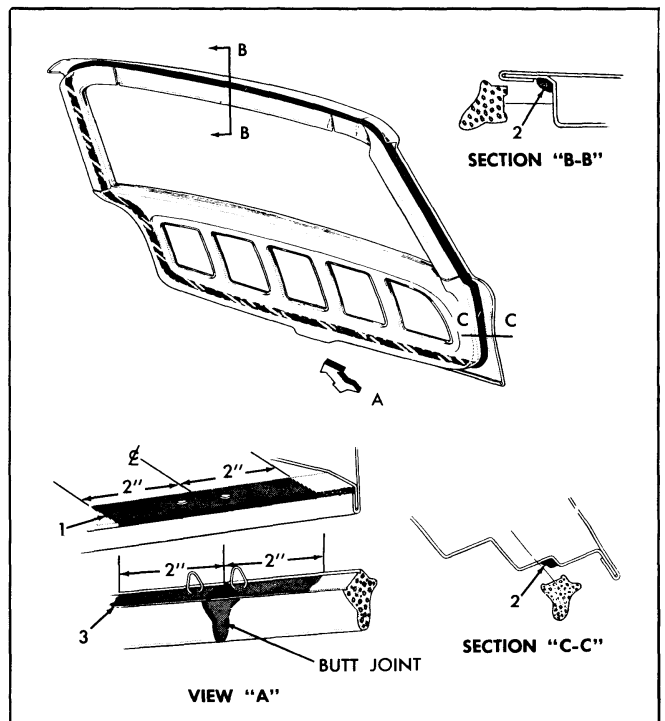

Fig. 15-20 Back Door Weatherstrip Installation
3. For distance of 2 inches on both sides of the butt joint location (bottom center of door), apply weatherstrip adhesive (neoprene type) to the door panel surface contacted by weatherstrip (See 1 in view "A", Fig. 15-20).
4. Apply a bead of weatherstrip adhesive (black) in the corner of the rabbet (2 in Sections "B-B" and "C-C" in Fig. 15-20) completely around door.
5. For a distance of 2 inches on both ends of weatherstrip, apply a coat of weatherstrip adhesive (neoprene type) to the weatherstrip surface which contacts the door panel (3 in view "A" Fig. 15-20).
7. Apply weatherstrip adhesive (neoprene type) to butt ends of weatherstrip and cement ends together to form an even butt joint. (See view "A", Fig. 15-20).